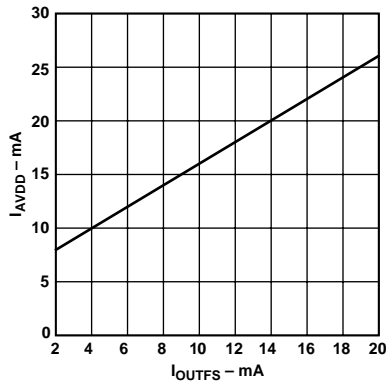

Figure 19.  $I_{AVDD}$  vs.  $I_{OUTFS}$
The power dissipation,  $P_D$ , of the AD9708 is dependent on several factors, including: (1)  $AVDD$  and  $DVDD$ , the power supply voltages; (2)  $I_{OUTFS}$ , the full-scale current output; (3)  $f_{CLOCK}$ , the update rate; (4) and the reconstructed digital input waveform. The power dissipation is directly proportional to the analog supply current,  $I_{AVDD}$ , and the digital supply current,  $I_{DVDD}$ .  $I_{AVDD}$  is directly proportional to  $I_{OUTFS}$ , as shown in Figure 19, and is insensitive to  $f_{CLOCK}$ .